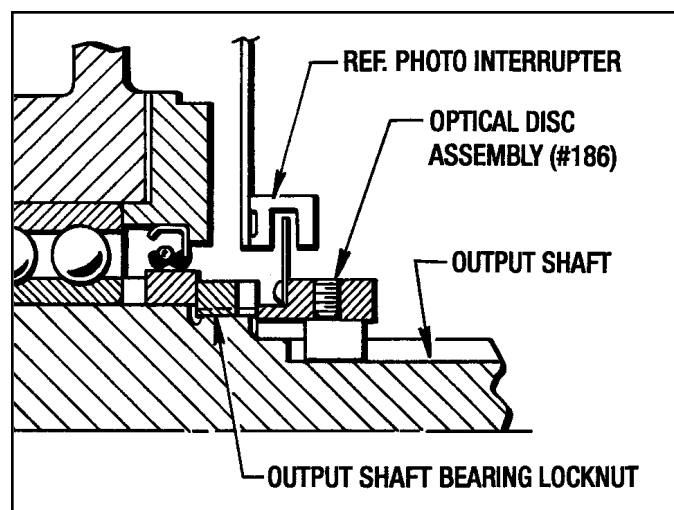

Figure 9.23 - Optical Disc and Hub Positioning
1. Install Key (#234), then slide the Optical Disc Assembly (#186) onto the output shaft, butting it up against the Locknut (#15). (See Figure 9.23)
7. Carefully insert the Circuit Board (#355) into the top of the Disc Housing making sure the (3) Photo Interrupters straddle the Optical Disc. (See Figures 9.23 and 9.24)